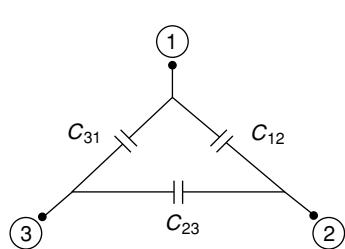

Fig. 1.50 *Delta-connected capacitors* (Ex. 1.49)
1.49 Three delta connected capacitors are set to form a unit as shown in Fig. 1.50. It is required to transform the delta unit to equivalent star. Find these star capacitances for equal capacitances between similar terminals in both the connections.